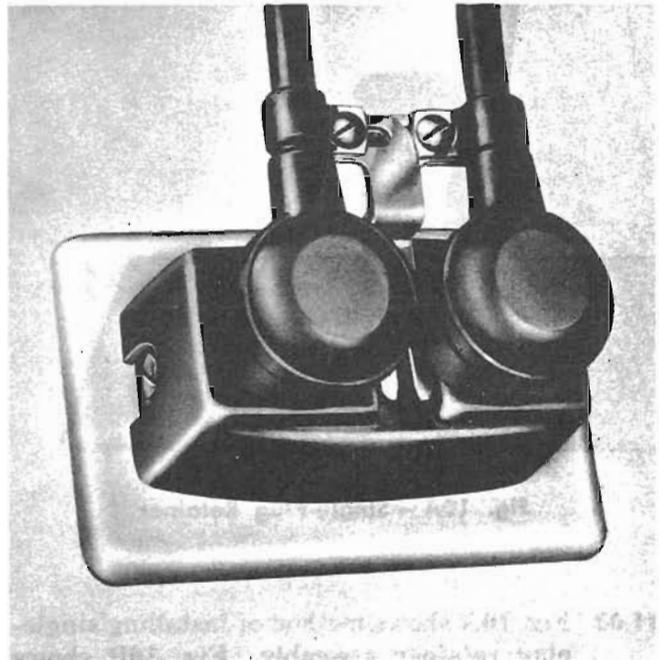

Fig. 10E — Twin-Plug Retainer (Used with BL-12433 Adapter)
11.07 Install the twin-plug retainer assemblies with the BL-12433 adapter as shown in Fig. 10E.